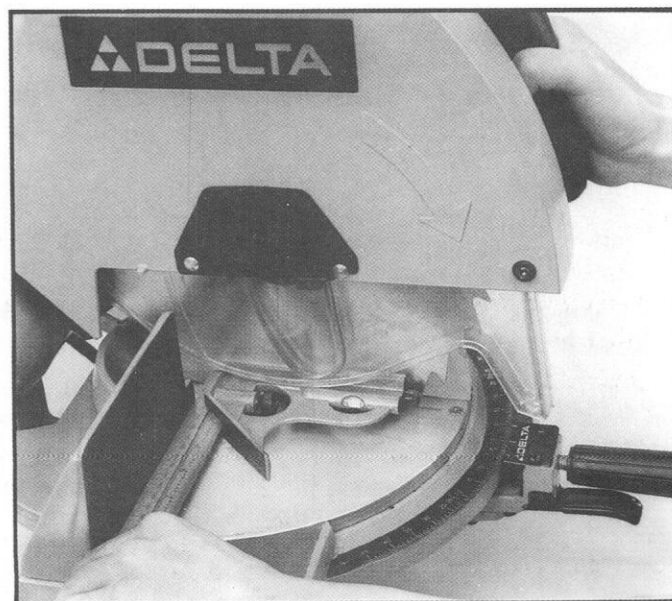

Fig. 18
3. Lower the saw blade into the slot in the table insert and using a square, place one end of the square against the fence and the other end against the saw blade, as shown in Fig. 18. Check to see if the fence is at 90 degrees to the blade.